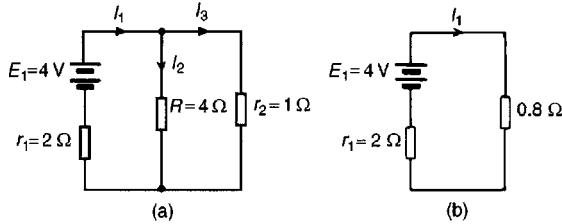
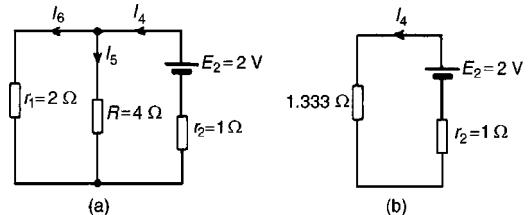
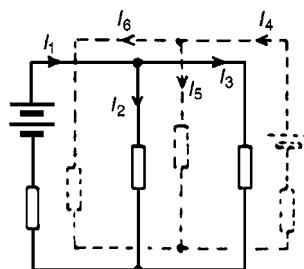

Figure 13.17
Figure 13.18
Figure 13.19
- Redraw the original circuit with source E_2 removed, being replaced by r_2 only, as shown in Fig. 13.17(a)
- Label the currents in each branch and their directions as shown in Fig. 13.17(a) and determine their values. (Note that the choice of current directions depends on the battery polarity, which, by convention is taken as flowing from the positive battery terminal as shown)
From the equivalent circuit of Fig. 13.17(b),
- Redraw the original circuit with source E_1 removed, being replaced by r_1 only, as shown in Fig. 13.18(a)
- Label the currents in each branch and their directions as shown in Fig. 13.18(a) and determine their values.
From the equivalent circuit of Fig. 13.18(b)
From Fig. 13.18(a),
- Superimpose Fig. 13.18(a) on to Fig. 13.17(a) as shown in Fig. 13.19